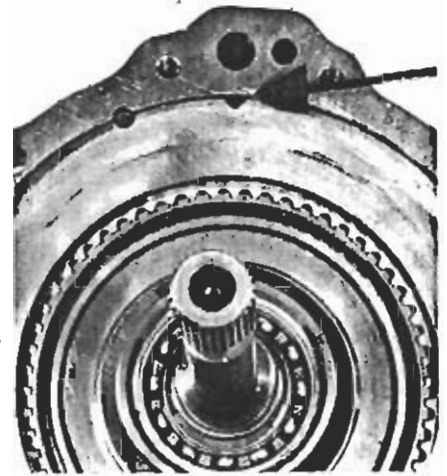

Figure 25 Location of cast V-slot
**STEP 35** Locate the holes down and align the cast V-slot of the reverse clutch pressure plate (83) with the large oil hole at the top of front face of the transmission case. Springs must engage holes in pressure plate which will be level when properly assembled, figure 25.